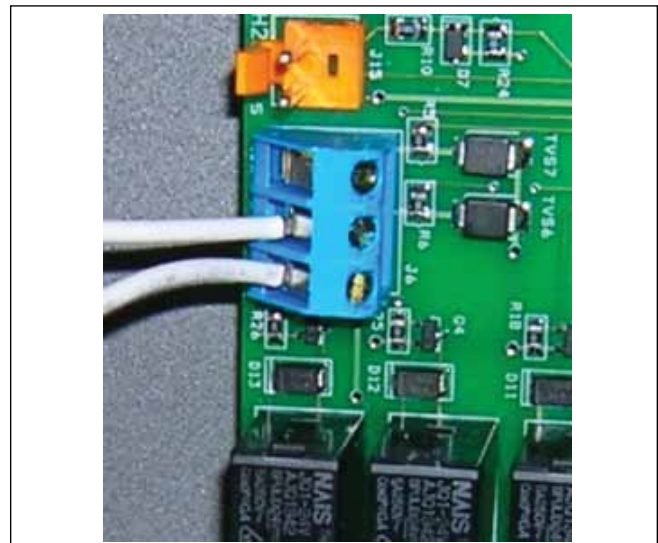

Figure 18. AquaLink® RS or Remote TSTAT Connection (2-Wire Connection)
4. Connect the wiring from the pool/spa control system to the heater remote control terminal. See Figure 18.